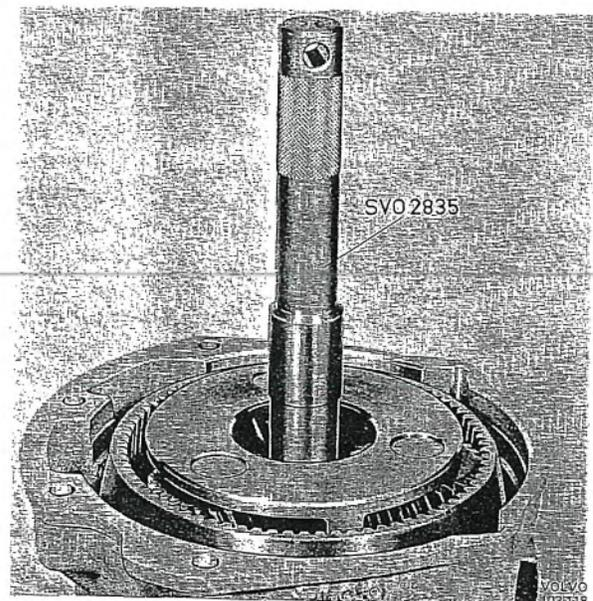

Fig. 4-48. Installing planet gear
8. Place the planet carrier complete with planet gear in position on the output shaft. Guide up the splines into the planet carrier and uni-directional clutch with drift 2835, Fig. 4-48.